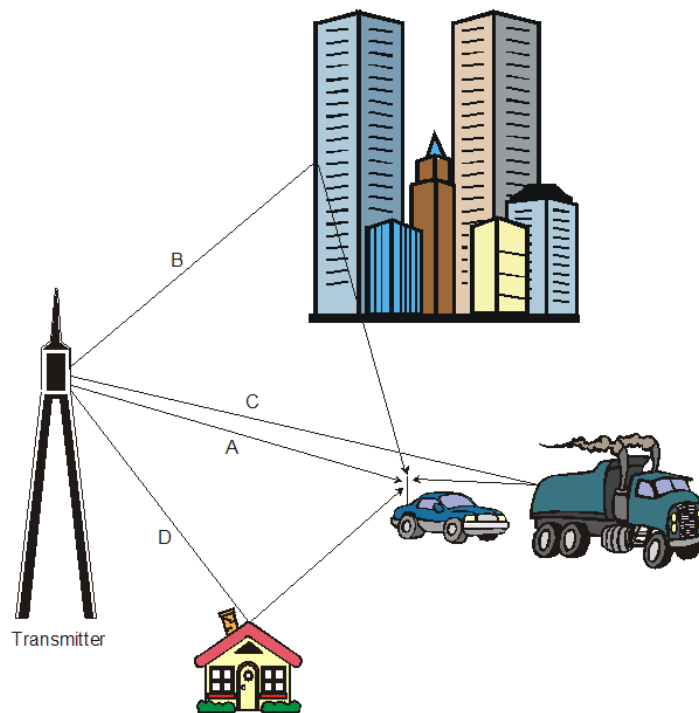

Figure 3-6: Transmitter to Receiver Signal Diagram
Relative path loss is a phenomenon where individual signal paths arriving at the receiver are at different absolute power levels. The difference in power levels between paths is caused by the physical obstructions in the signal path. Referring to Paths (A) and (C) in Figure 3-6, Path (C) will arrive at a lower power level than Path (A). This occurs since some amount of the power in signal Path (C) is lost when it reflects off the truck. Signal strength will also vary due to the distance the signal travels. The loss of signal strength should follow the $1/d^2$ law in free space, where d is the distance between the transmitter and the receiver. In the actual cellular environment the loss is much worse, (between $1/d^3$ to $1/d^6$), due mainly to variations in the terrain.
Static frequency shift from the carrier frequency occurs when the distance between the receiver and transmitter is changing. An example of this is when a mobile receiver (car) is driving away from the transmitter. Path (A) in Figure 3-6 has a static frequency shift due to the movement of the car. The amount of the frequency shift (Doppler frequency) from the carrier is determined by the following formula: